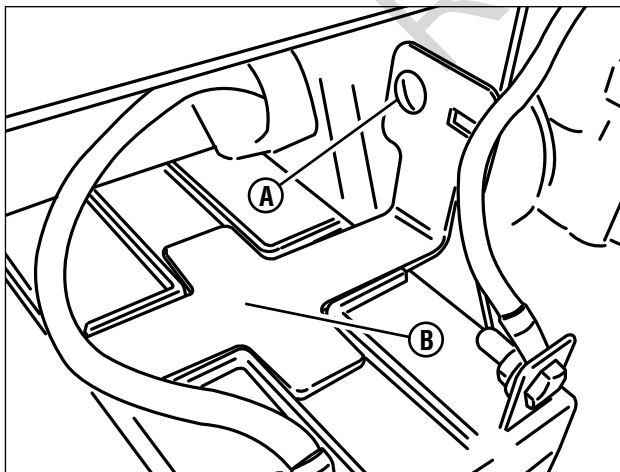

Figure 48: Battery holddown bracket
2. Remove the hardware (**A**, **Figure 48**) securing the battery holddown bracket (**B**), and remove the bracket.
6. Reinstall the battery holddown bracket (**B**, **Figure 48**), securing with the removed hardware (**A**).